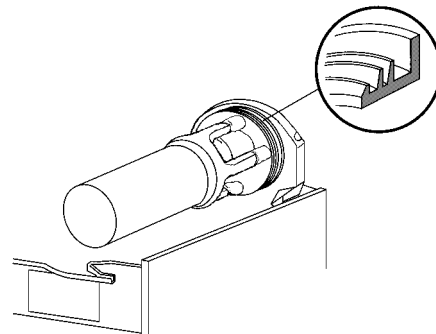

figure 13
- 4 Fit bowl gasket around its seat. Note: the largest brim of gasket must face against the rear wall (see figure 13).